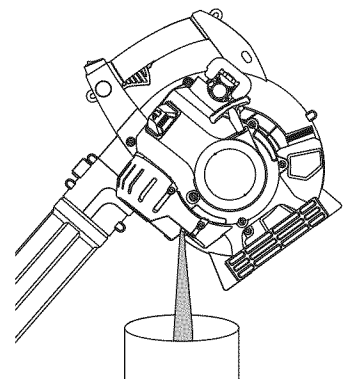

Fig. 19
2. Pour the oil out of the oil fill hole and into a container by tipping the unit to a vertical position (Fig. 19). Allow ample time for